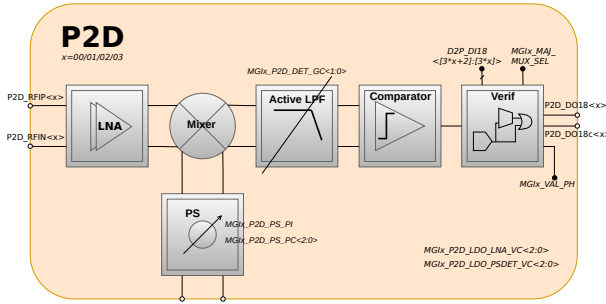

Figure 19: P2D block diagram.
The Phase to Digital block is responsible for interpreting the SW MAJ output. Its architecture is based on a direct conversion receiver (Figure 19), which down-converts an RF signal to a baseband signal that contains the phase information of the RF input. The main blocks of the P2D chain are an LNA, an active mixer, an active low pass filter (LPF) and a comparator. There is also the Phase Shifter that can be considered as an autonomous block (Section 10.1.4) and the Verif block, which contains digital logic that provides extra functionalities.
As it can be seen in the P2D block diagram (Figure 19), a block called Verif exists after the comparator. This block contains simple digital logic circuitry that may be found useful for MGIX operation verification. Firstly, it contains a 3 input MAJ gate implemented in CMOS logic, which takes the same digital inputs as the D2P block (i.e. the ones given from the D2P_DI18<[3*x+2]:[3*x]> pins), and its output can be connected to the P2D_DO18<x> and P2D_DO18c<x> pins by properly setting the bit MGIX_MAJ_MUX_SEL (Table 10). This means that
10.1.4 Phase Shifter (PS)
The Phase Shifter (PS) is situated inside the P2D block, but it can be considered as an autonomous block. It takes a differential RF input from the D2P driver block, and then it produces a phase shifted differential RF output, by properly phase shifting the input signal. The amount of phase shift can be controlled through the SPI, as described in the following paragraphs. The produced RF signal is forwarded to a driver and then enters the active mixer of the P2D, in order to be mixed with the P2D differential RF input (Figure 19).